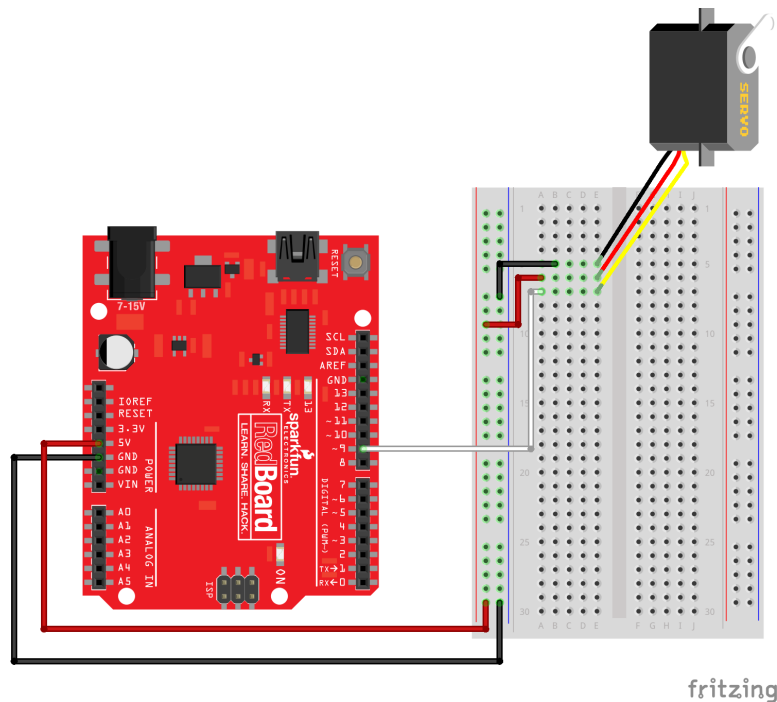

Figure 7: Fritzing diagram for adding the RC servo motor. The potentiometer should already be there from earlier.
1. Disconnect your Arduino from your computer and build the circuit in Figure 7.